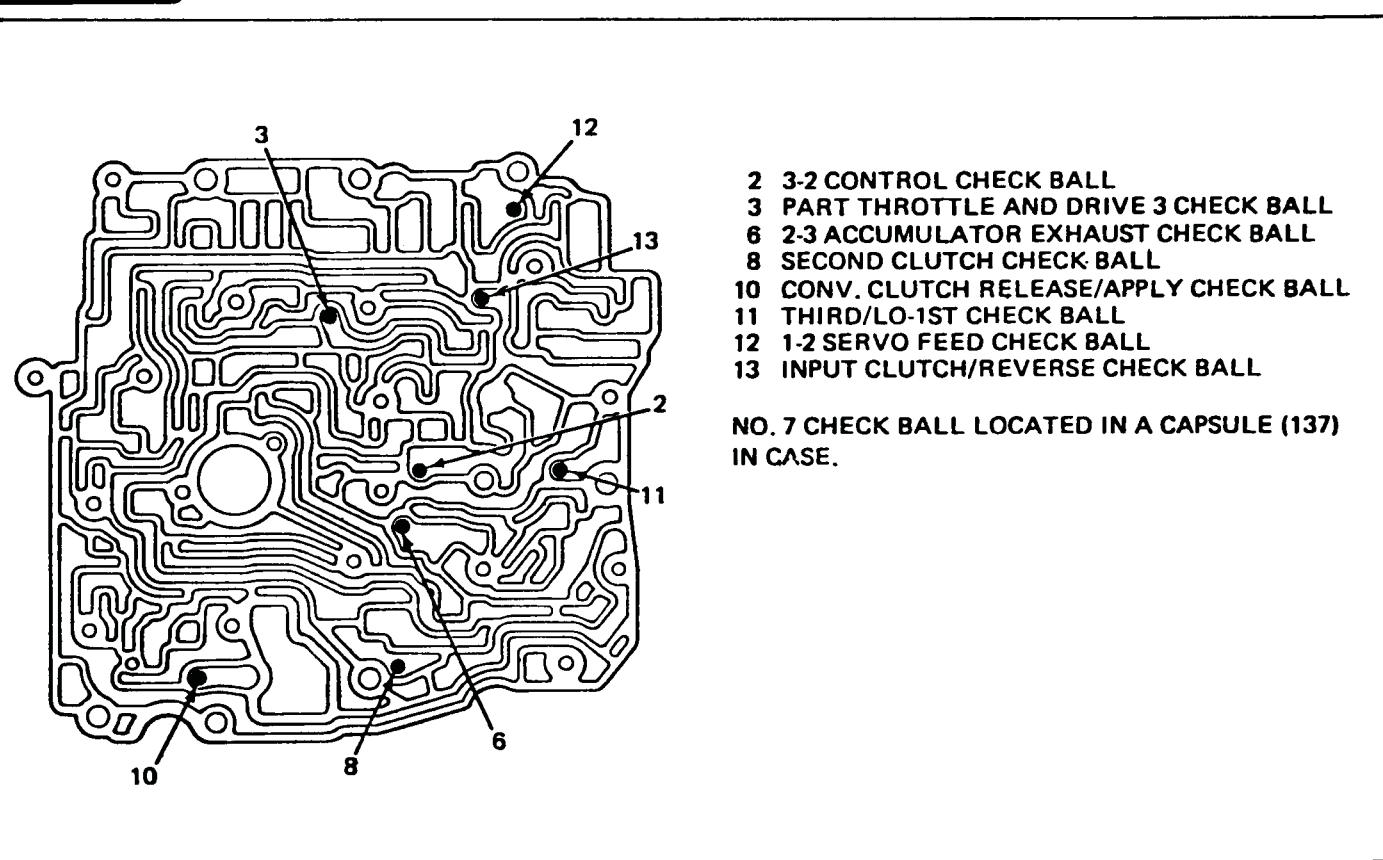

Figure 92
18. Install 8 steel check balls into channel plate in the locations shown in Fig. 92